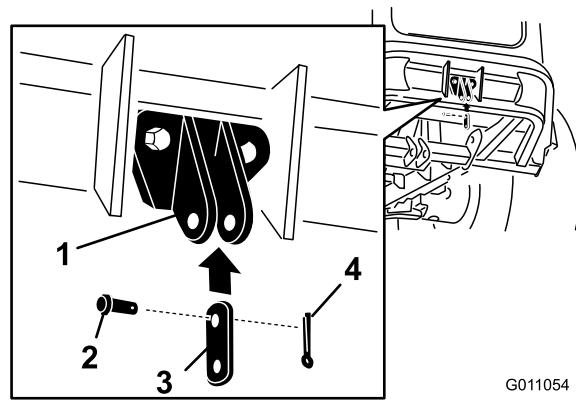

Figure 8
- Install the link to the link mounting bracket with a small clevis pin and small cotter pin (Figure 8).